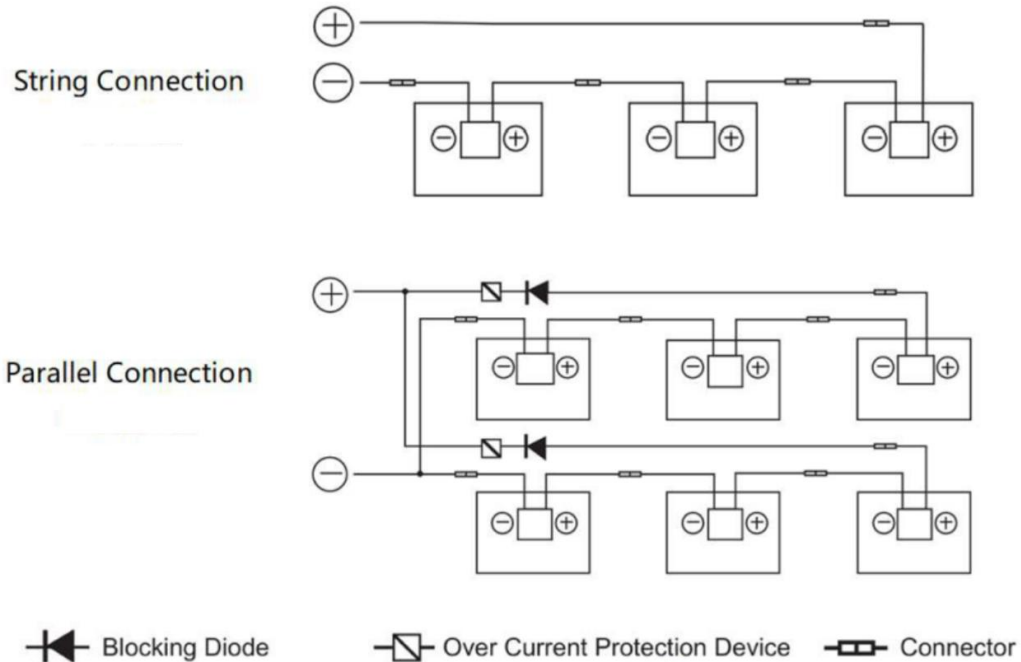

Fig. 5-8 Series Connection and Parallel Connection Circuit Diagram
- When modules are in series connection, the string voltage is sum of every individual module in one string. When modules are in parallel connection, the current is sum of the individual module as shown in below figure 5-8. Modules with different electric performance models cannot be connected in one string. During there is no any protection for string due to suitable anti-reverse devices and fuse, do not connect two or more strings with Y or T connector. Do not connect fuse in Combiner Box or string inverter with two or more strings in parallel connection without any anti- reverse devices or function.